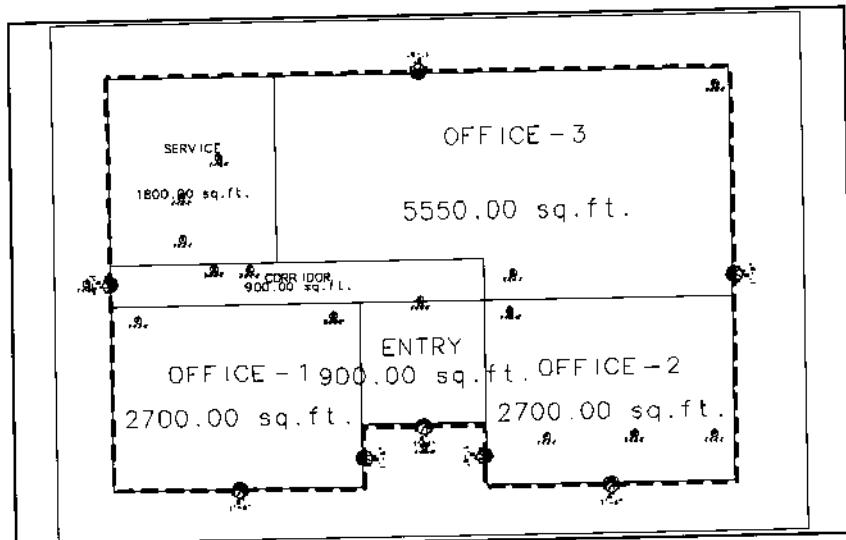

Figure 7.
6. The drawing should appear similar to Figure 7.